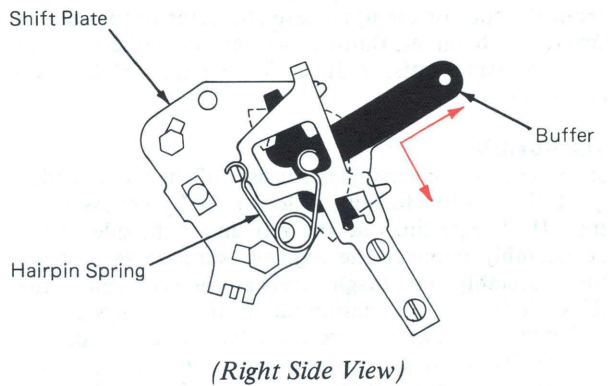

Figure 11 – Buffer Restores To Rear
- The pin on the side of the buffer is cammed down by the notch in the shift plate as the buffer restores to the rear (Figure 11). The notch and hairpin spring position the buffer in line with the lower pin, ready for the next shift operation.